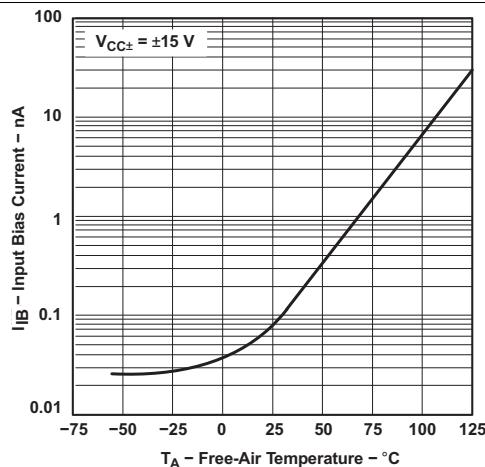

Figure 1. Input Bias Current vs Free-Air Temperature
(1) All characteristics are measured under open-loop conditions with zero common-mode voltage, unless otherwise specified.
(3) Input bias currents of an FET-input operational amplifier are normal junction reverse currents, which are temperature sensitive, as shown in Figure 1. Pulse techniques must be used that maintain the junction temperature as close to the ambient temperature as possible.
- (1) Input bias currents of an FET-input operational amplifier are normal junction reverse currents, which are temperature sensitive, as shown in Figure 1. Pulse techniques that maintain the junction temperature as close to the ambient temperature as possible must be used.
- (2) All characteristics are measured under open-loop conditions with zero common-mode voltage, unless otherwise specified. Full range is $T_A = -55^\circ C$ to $+125^\circ C$.